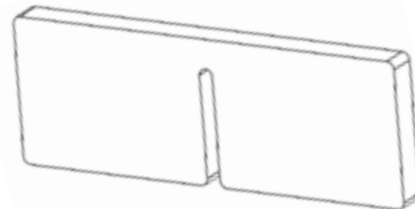

Figure 21
1. Find the (2) foam spacers, see Figure 21 for what they look like.